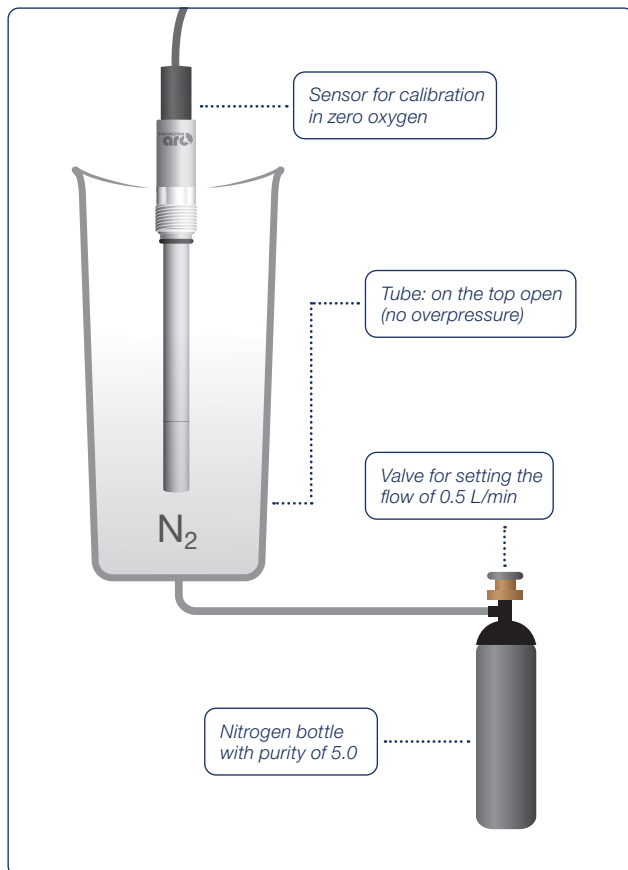

Figure 18: Zero point calibration setup
- 1) Install the sensor into the calibration station and connected the Nitrogen calibration gas (Figure 18)